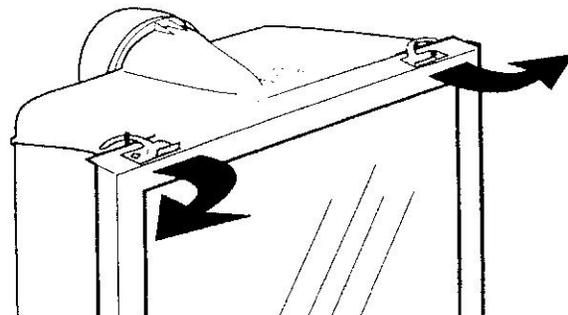

Figure 3-2. Pivot the locking latches to release the glass frame.
1. Pivot the two latches at the top corners to disengage the latches from the retainer posts at the top of the firebox. Figure 3-2. Lift the glass frame assembly off the front and place it out of the way on a flat, padded surface such as a counter protected by a towel. *The glass panel will not be replaced until the entire installation is complete and the pilot has been lit.*